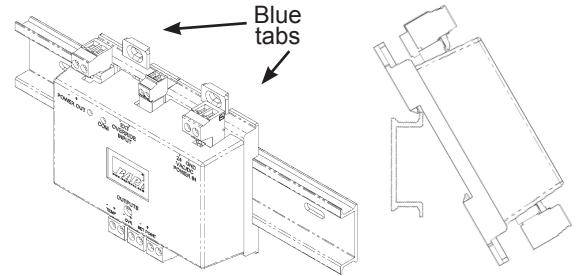

Fig 4. Communication Output Module DIN Mount
Din Rail Mounting: (Figure 4)
- 1 Pull the blue mounting tabs out (see figure 4).
- 2 Catch EZ mount hook on DIN rail as shown in Figure 4 and rotate the EZ module down until the bottom mounting tab snaps into place on the DIN rail.